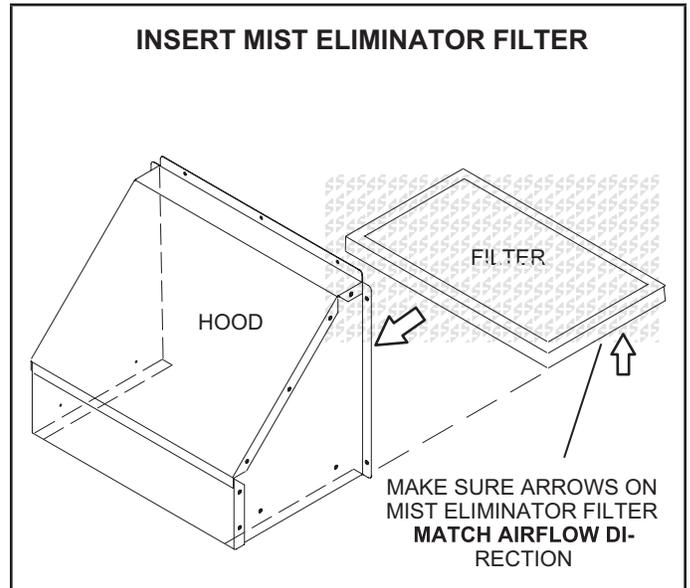

FIGURE 15
- 2 - Install mist eliminator filter as shown in FIGURE 15.